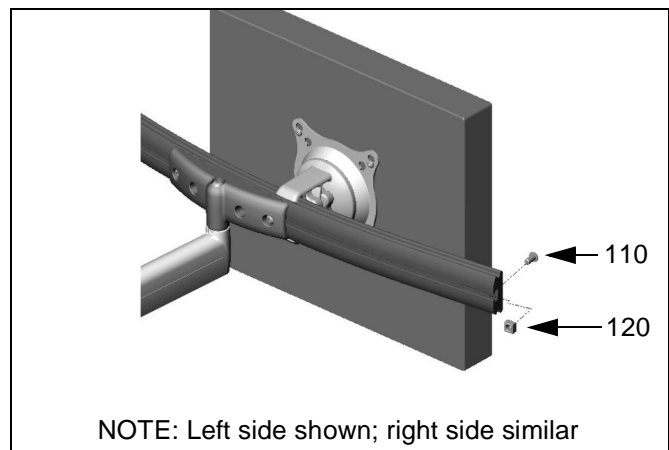

Figure 17: Install End Locks
7. Position the displays as desired and tighten the Centris head knob closest to the *array* (10). See "ADJUSTMENT" for additional information.
8. Using 5/32" hex key, install screw (110) and nut (120) on each end of the array (10) to prevent displays from accidentally sliding off (See Figure 17).